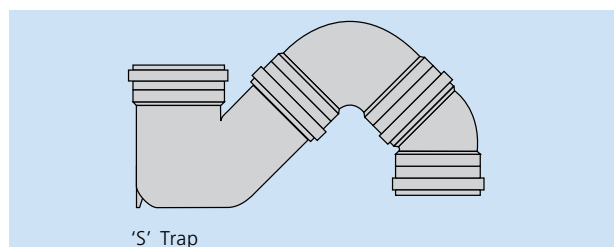

Fig. 22
- Use 4DG90 Gully Trap with 4D23D Bend 87 1/2° and 4D25 Bend 45° (Fig. 22)